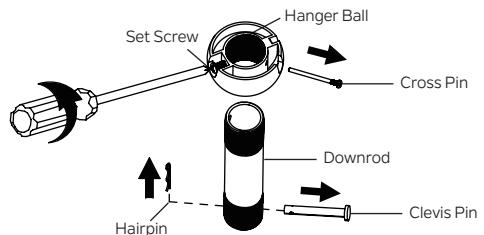

Fig. 8
**Step 2.** Remove the hairpin and clevis pin from the downrod assembly, retain for later use. Remove the hanger ball from the downrod assembly by loosening set screw, removing the cross pin, and sliding ball off of the rod. (Fig. 8)